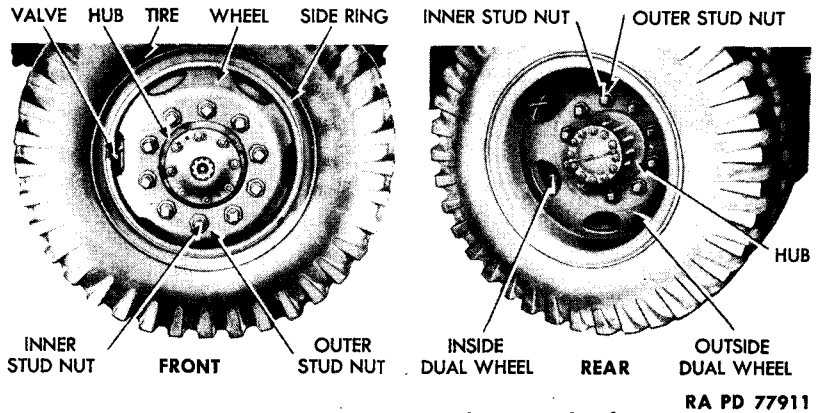

Figure 80 — Front and Rear Wheels
b. Removal (fig. 80). Set propeller shaft brake and block wheels to prevent vehicle from moving. If wheel is mounted singly, loosen the 10 inner and outer stud cap nuts which secure wheel to hub assembly. Using a suitable lifting device, lift wheel clear of floor, and remove the 10 inner and outer stud cap nuts. If two wheels are mounted dually, remove the outer hex head stud cap nuts first, and remove outer wheel; then remove 10 inner stud cap nuts and remove inner wheel.
c. Installation (fig. 80). Position wheel on hub assembly. If wheel is to be mounted alone, install the 10 inner and outer stud cap nuts. If wheels are to be mounted dually, install the 10 inner stud cap nuts, then mount second wheel and install the 10 outer stud cap nuts. Tighten nuts in opposite positions alternately to ensure proper alinement of wheel and hub. Lower wheel to floor, release brake, and remove blocks from wheels.
c. **Removal** (fig. 80). Remove wheel (par. 133). Lay tire flat on floor with valve pointing up, and remove valve core to release air from tire. Remove side ring from wheel as follows: Insert tire iron in groove at end of ring, and pound iron all the way around between ring and wheel. Remove ring, and force tire iron between tire casing and wheel. Pound iron all the way around. **CAUTION: Be careful not to damage valve. Push valve back through opening, remove tire and tube from wheel, and carefully pull flap and tube from tire.**
d. **Installation** (fig. 80). Install tube and flap in tire casing, and install valve core. Partially inflate tube, and check to see that tube is not twisted or buckled and that flap entirely covers exposed side of tube. Position tire on wheel, pull valve through opening, and install side ring. Check valve to see that it does not touch wheel. Inflate tire to proper pressure (subpar. a (2), above). Mount wheel on hub assembly (par. 133).